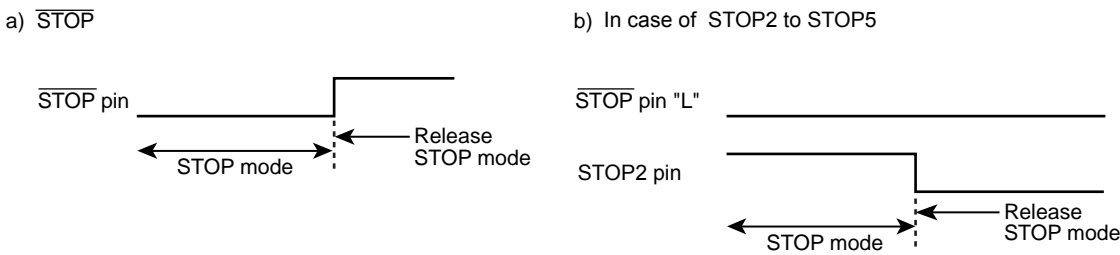

Figure 12-3 Priority of $\overline{\text{STOP}}$ pin and STOP2 to STOP5 pins
- Note 6: When the STOP mode is released by STOP2 to STOP5 pins, the level of $\overline{\text{STOP}}$ pin should hold "L" level (Figure 12-3).